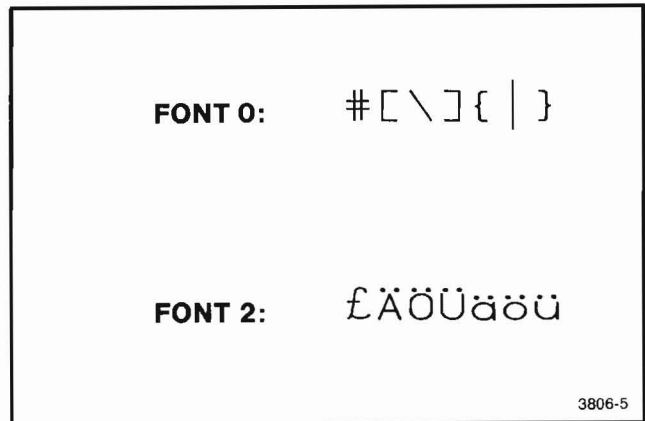

Figure 3-2. Fonts 0 and 2.
- b. Transmit the following PRINT command; notice that the printed characters appear like those of the first line in Figure 3-2.